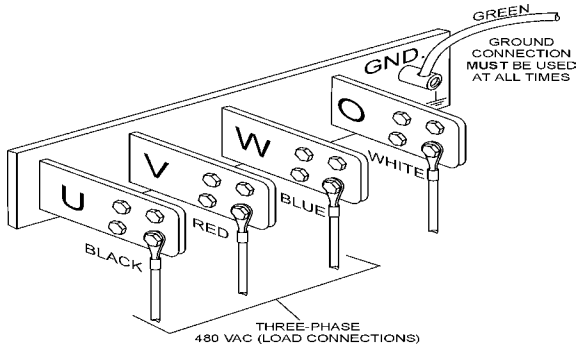

Figure 23. UVWO Terminal Lugs 3Ø480V Connections
2. Connect the load wires to the UVWO terminals as shown in Figure 23.